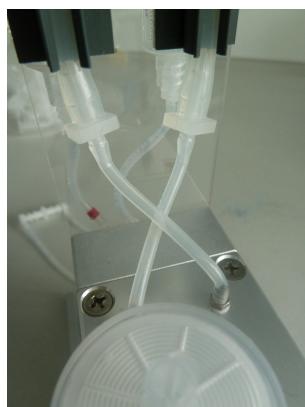

Figure 55 – Crossing the tubing above the valve block (valve 1).
9. Keep the tubing above the reservoirs crossed, and cross the tubing on the valve block (Figure 55).